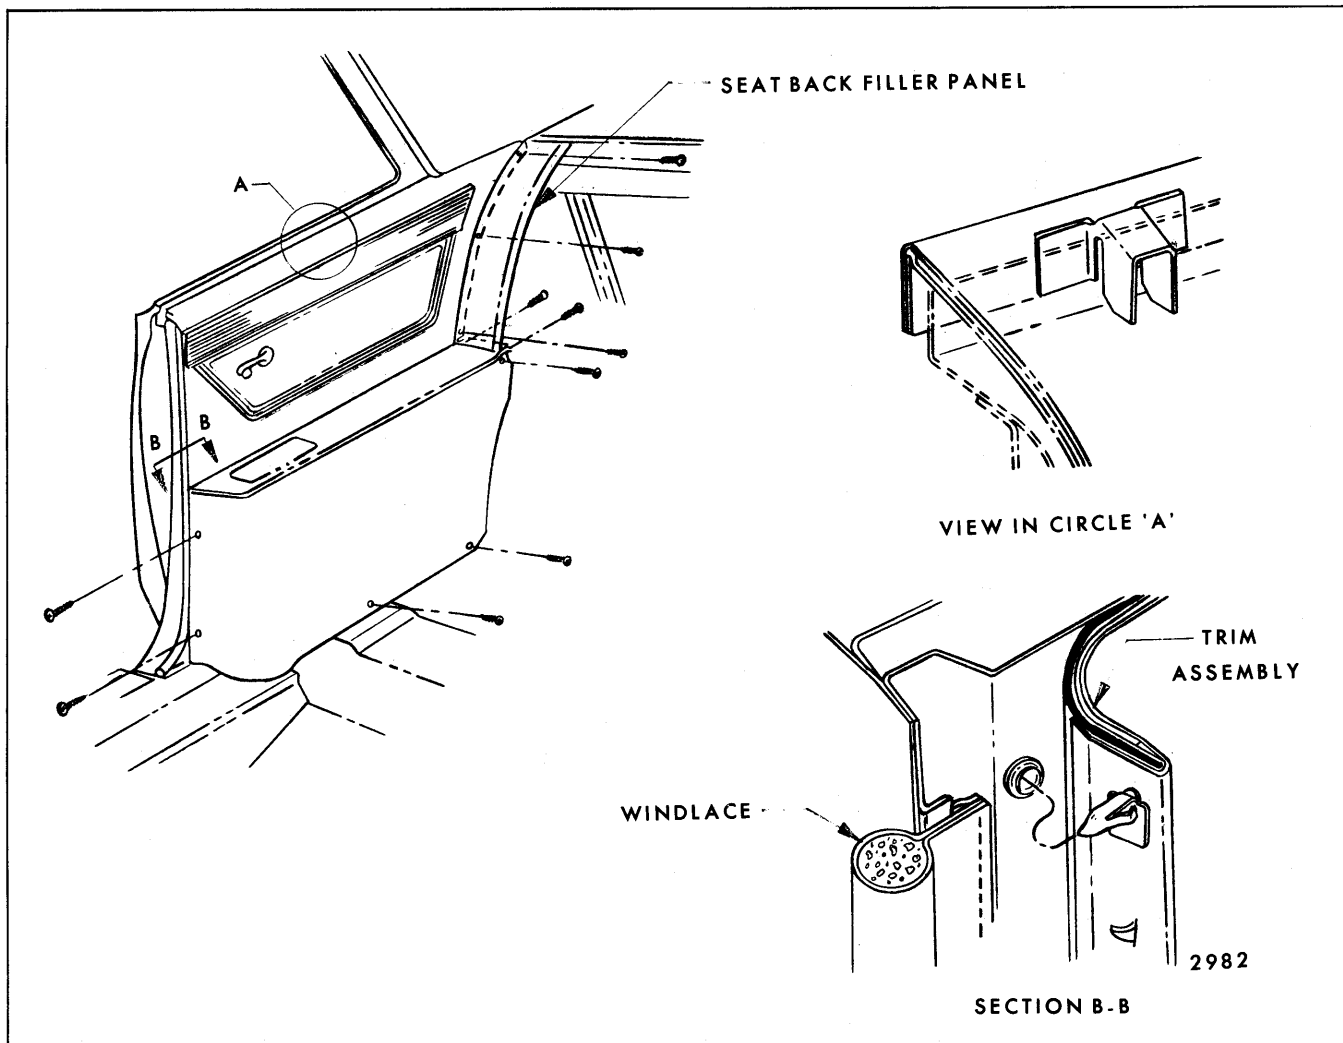
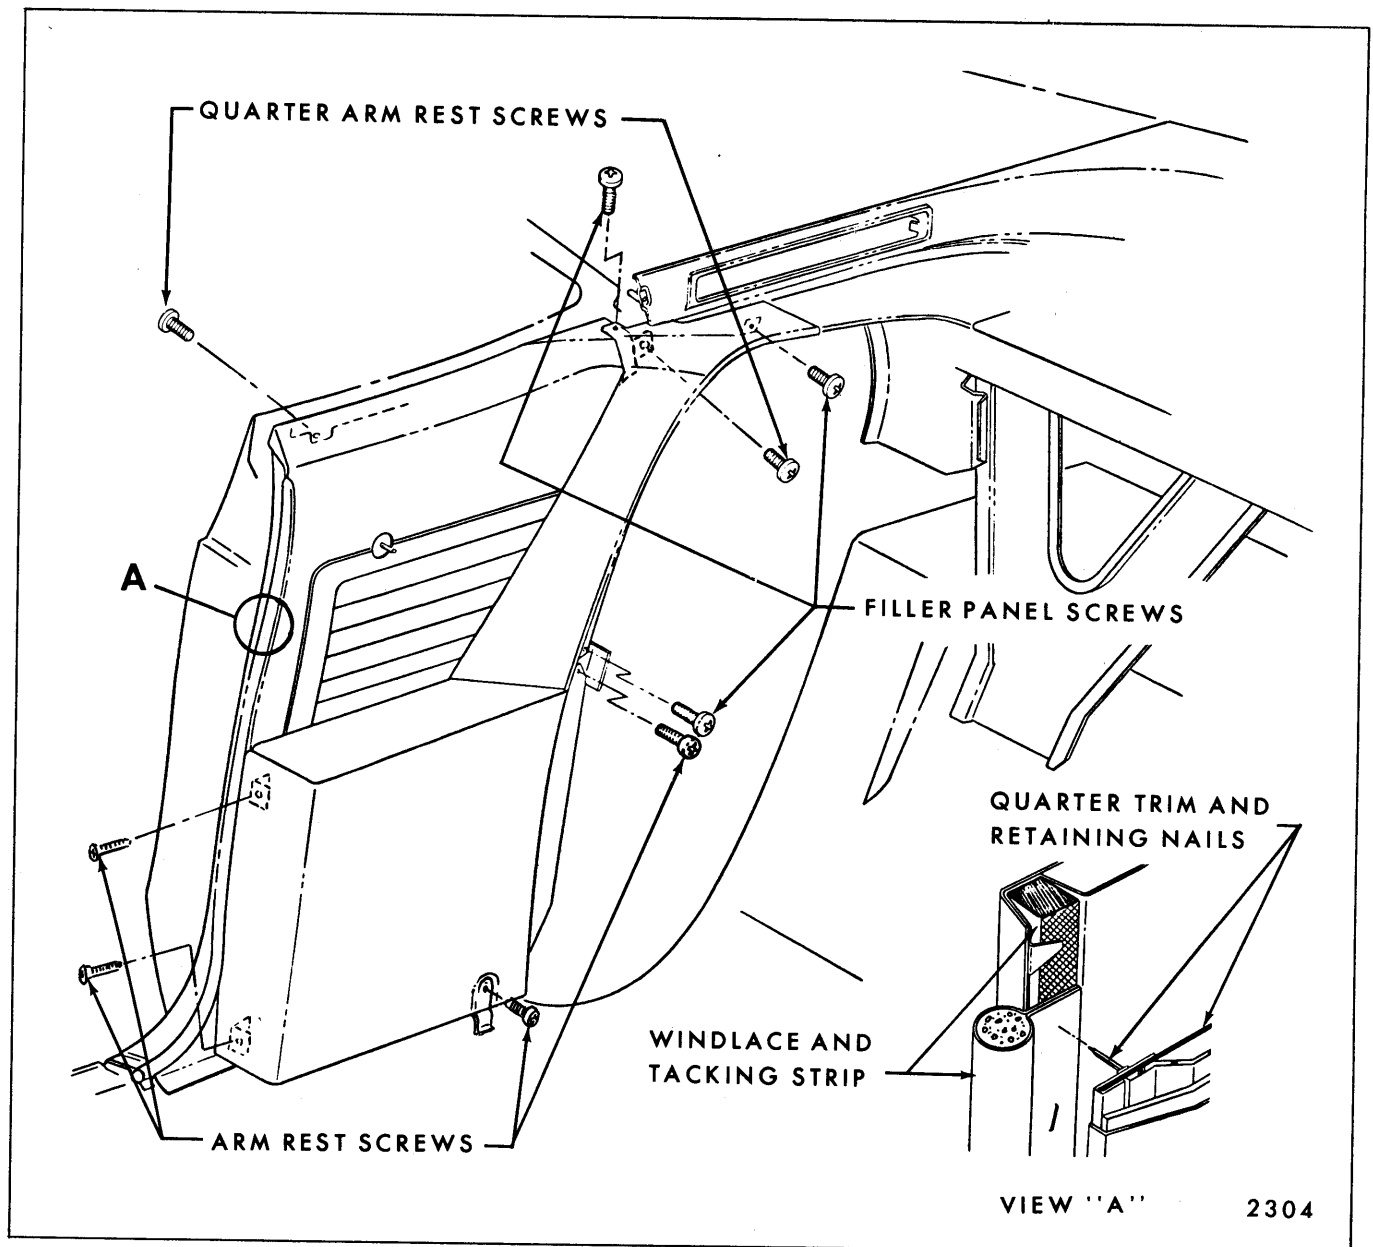

Fig. 14-17—Rear Quarter Trim - "A" Styles
Fig. 14-24—Shelf Trim Removal - "39487" Style
- B. Floor mounted arm rests which are retained by screws inserted through the arm rest assembly into brackets on the inner panel (Fig. 14-17).
5. Remove all screws securing trim assembly (Figs. 14-24, 14-25 and 14-23).
7. On styles with body lock pillar windlace, use trim panel removing tool J-6335 or equivalent to disengage retaining nails from tacking strip (Fig. 14-24) or retaining clips from plastic retaining plugs (Fig. 14-17).